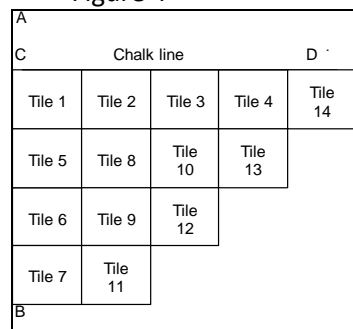

Figure 5
6. Start filling in, by working diagonally across the room (Fig 5) Tiles 11, 12, 13, 14 until the room is completed.